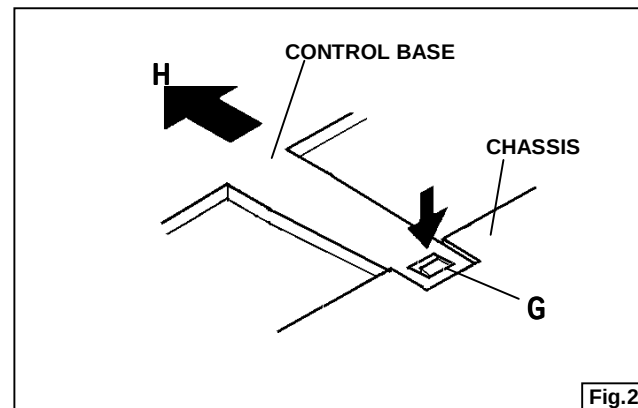

Fig.2
1. As shown in Fig.2, while pushing down the claws marked **G** , remove the CONTROL BASE in the arrow direction **H** .